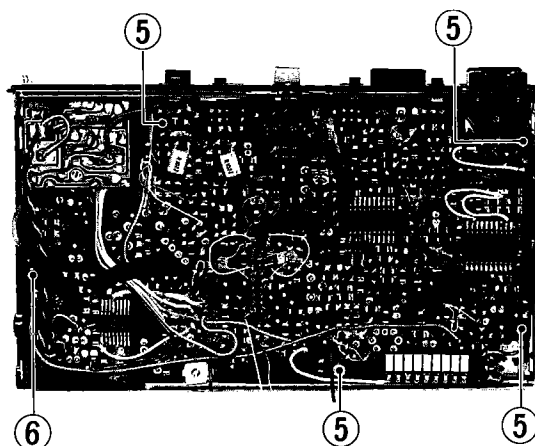

Fig. 25
C. Removal of main board ass'y (Fig. 25)
2. Remove 4 screws ⑤ SPSK1730N and screw ⑥ F00410-25N, then set up the main board ass'y.